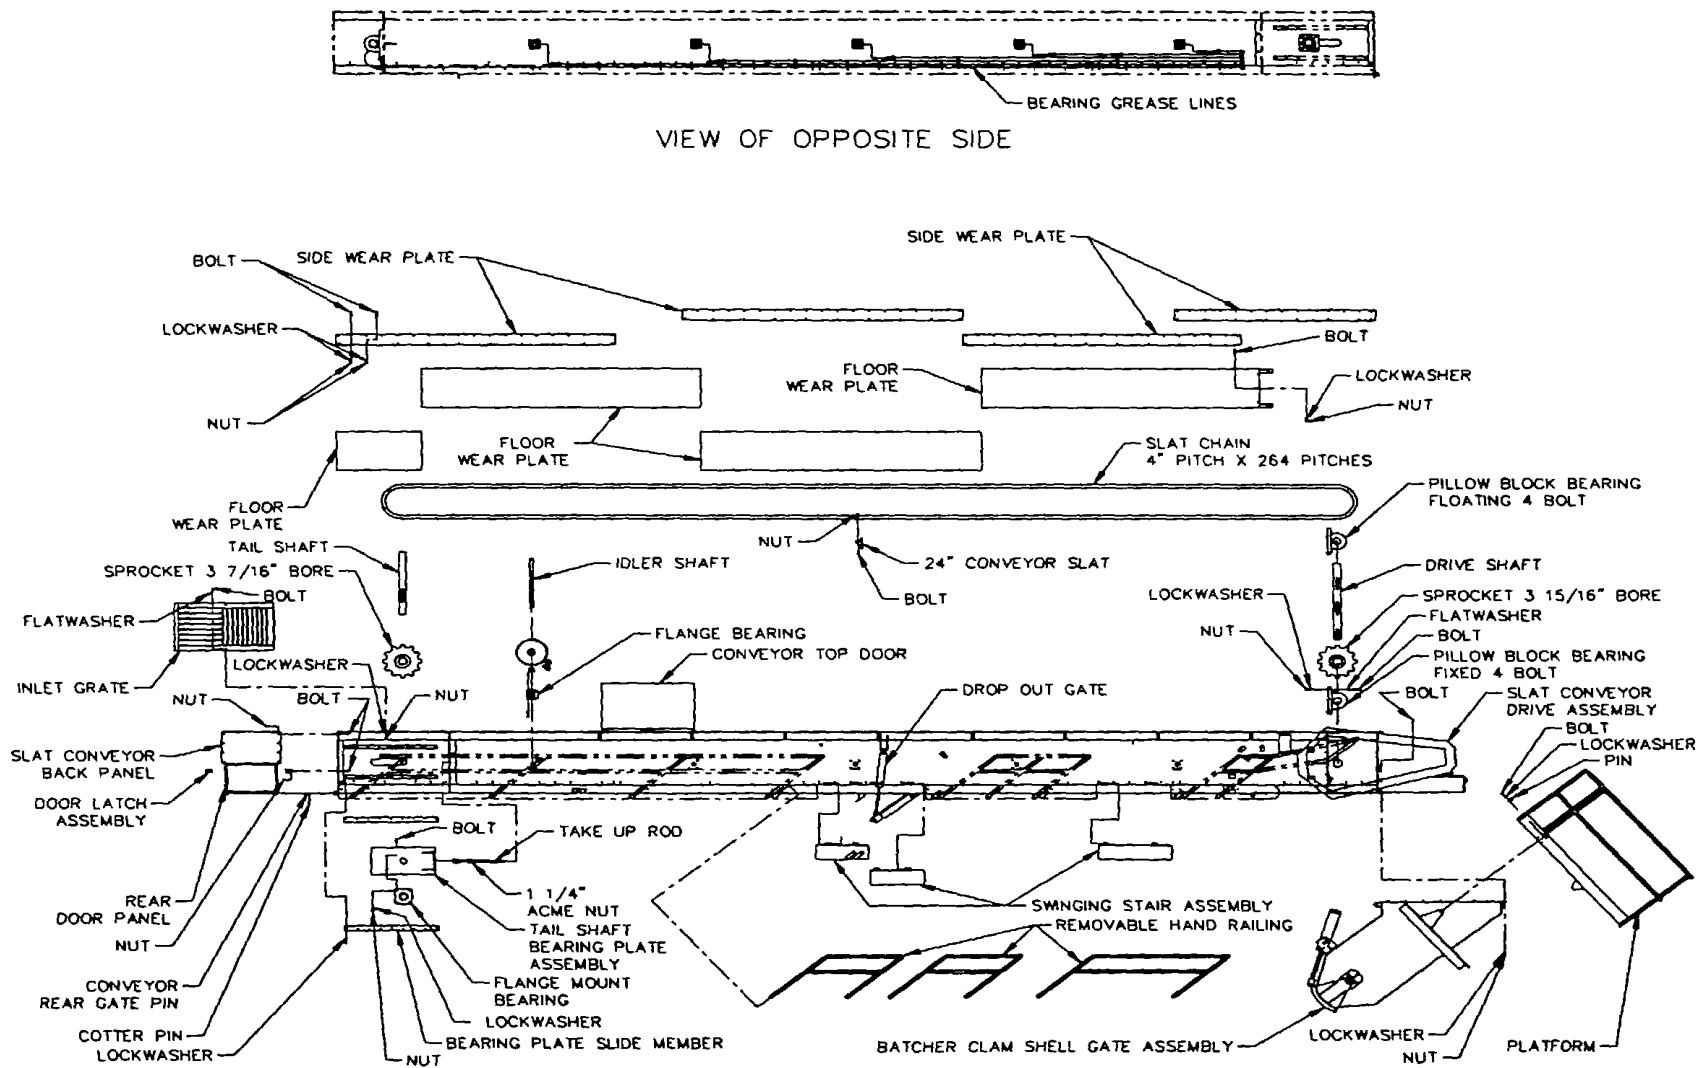

Figure 3-12. Slat Conveyor
**Removal, Repair and Replacement. See figures 3-12, 3-13 and 3-14.**